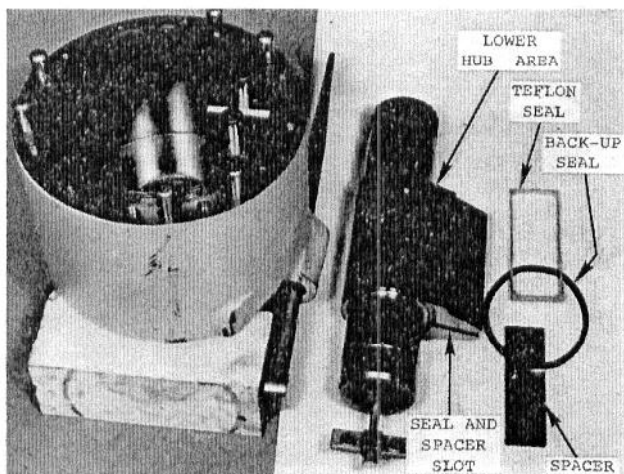

Fig. 53 — Moving Vane Shaft (and Related Parts) Removed From Cylinder
7. Remove the seals and spacer from the slot in the moving vane ... see Fig. 53.